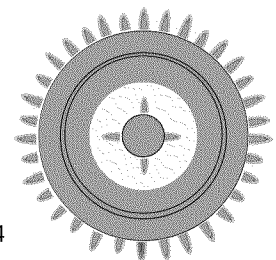

Fig. 4
3. Visually check that both the inner and outer rings are lit -*Fig. 4.*